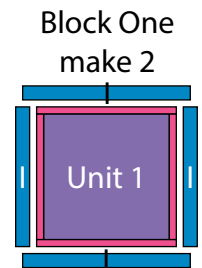

Fig. 8
3. Sew (1)  $1\frac{1}{2}" \times 10\frac{1}{2}"$  Fabric I strip to each side of (1) Unit 1 square. Sew (1)  $1\frac{1}{2}" \times 12\frac{1}{2}"$  Fabric I strip to the top and to the bottom of the Unit 1 square to make (1)  $12\frac{1}{2}"$  Block One square (Fig. 8). Repeat to make a second Block One square.